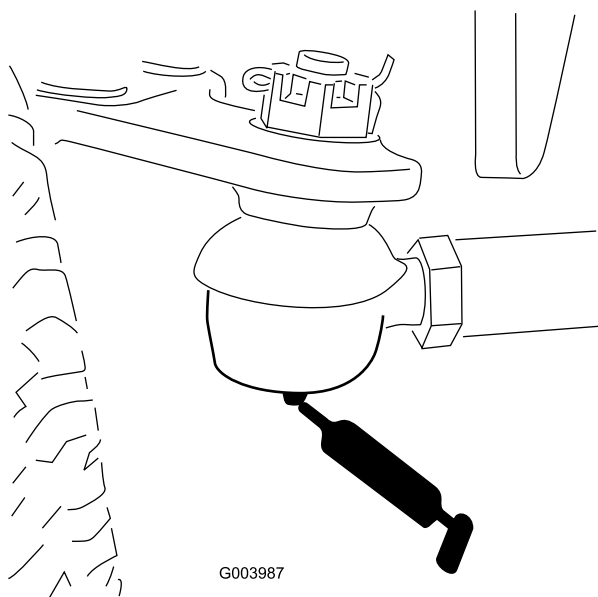

Figure 33
- Rear axle tie rod (2) (Figure 33)